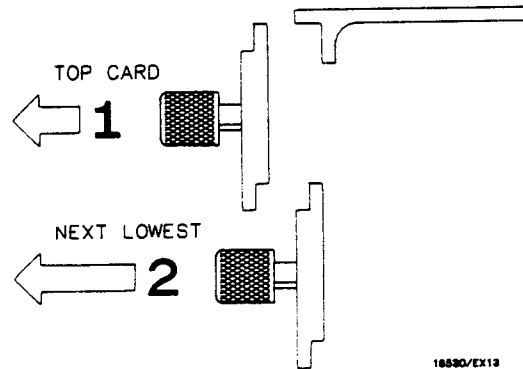

Figure A-1. Endplate Overlap
3. Starting from the top, begin pulling the card(s) and filler panel(s) out half way. See figure A-1.